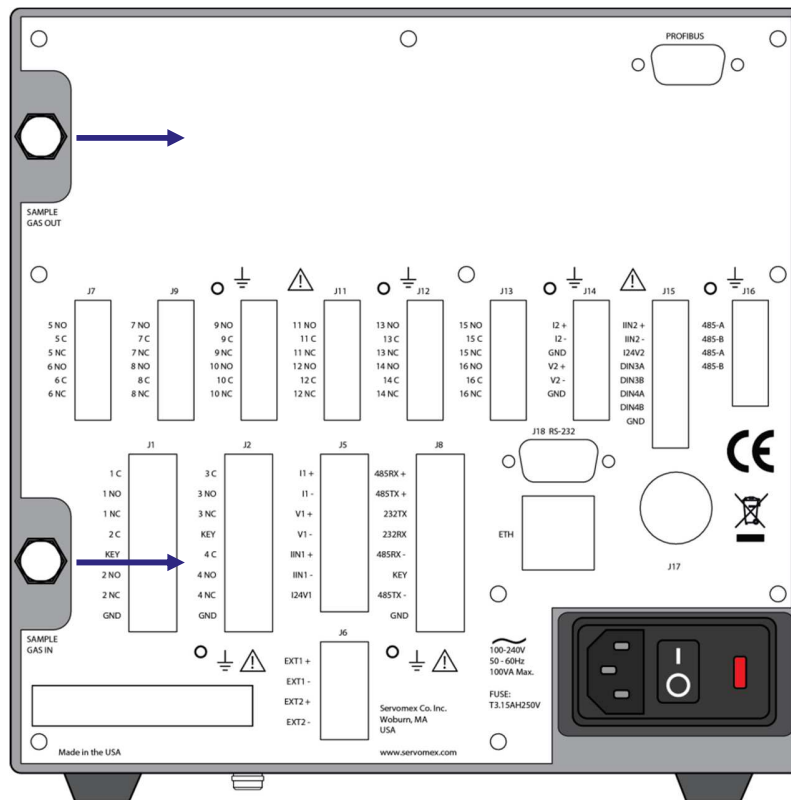

Figure 3-1: Gas inlets and outlets on rear of the analyzer
2. Remove the protective plastic covers from the sample gas inlets and outlets on the rear of the analyzer (**Figure 3-1**).
8. Remove the protective plastic covers from the sample gas inlets and outlets on the rear of the analyzer (**Figure 3-1**).